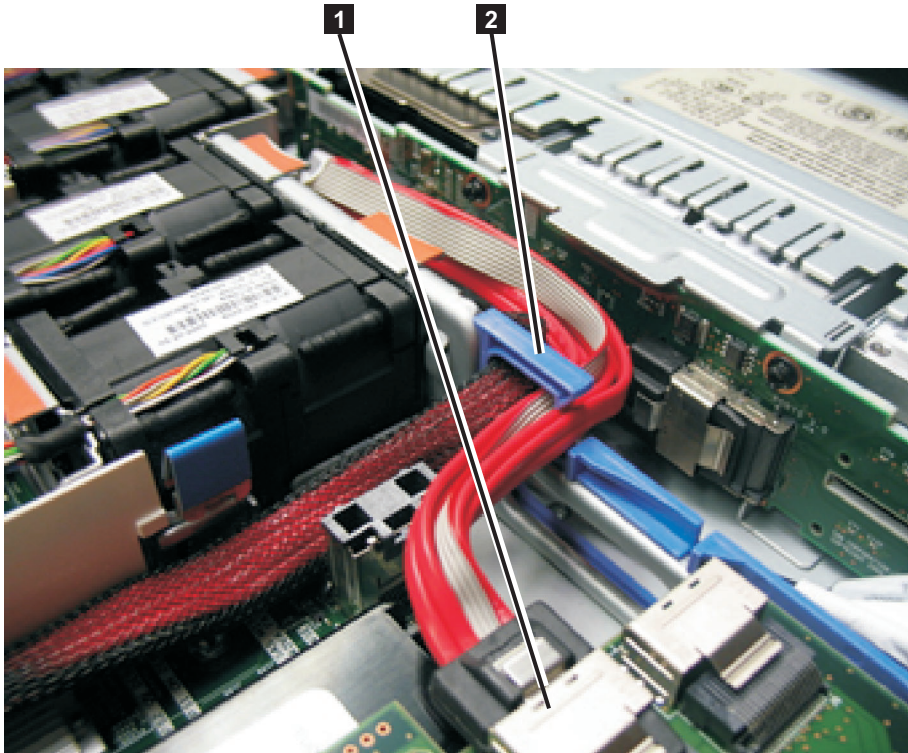

Figure 199. Boot-disk SAS cable routed through the blue bulkhead clip and connected to the SAS disk controller in the SAN Volume Controller 2145-CG8 or 2145-CF8
- | 10. Remove the cable from the blue bulkhead clip behind the disk backplane, as shown in Figure 199 on